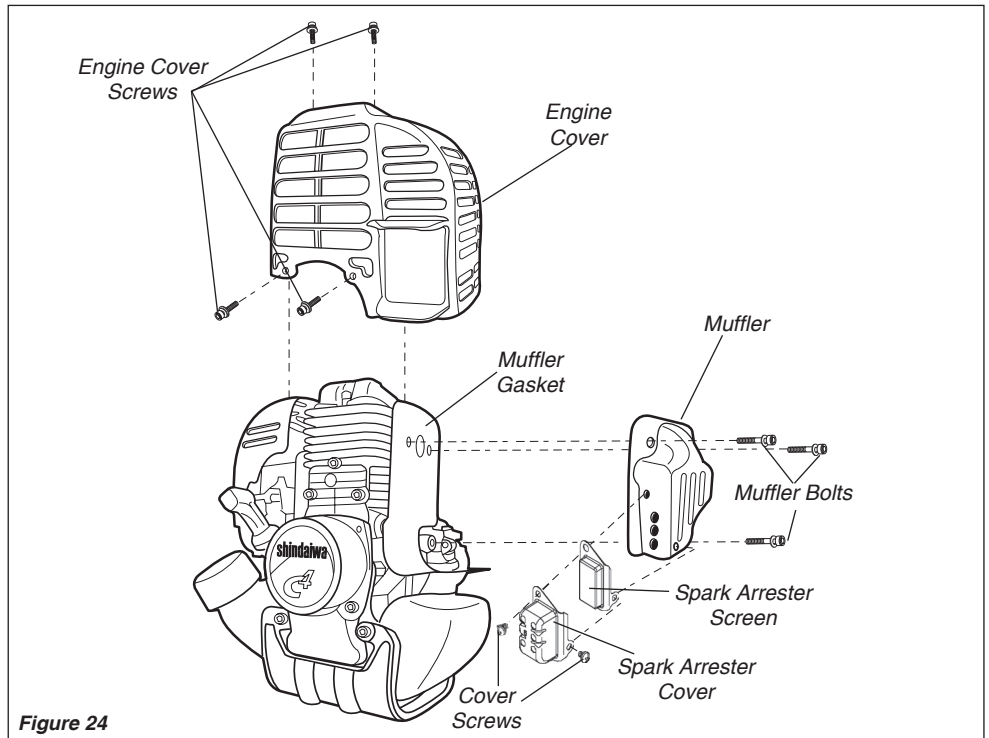

Figure 24
1. With a 3 mm hex wrench remove the 4 engine cover screws and the engine cover. See Figure 24.
2. With a 4 mm hex wrench remove the 3 muffler bolts and the muffler. See Figure 24.
3. With a small flat bladed screwdriver remove the 2 screws holding the spark arrester screen and cover to the muffler. See Figure 24.